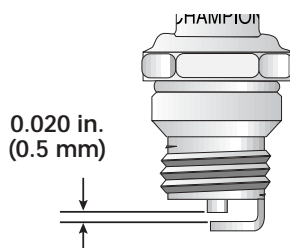

Figure 34
3. Replace cracked, fouled or dirty spark plug. Set the air gap at **0.020 in. (0.5 mm)** using a feeler gauge. See Figure 34.